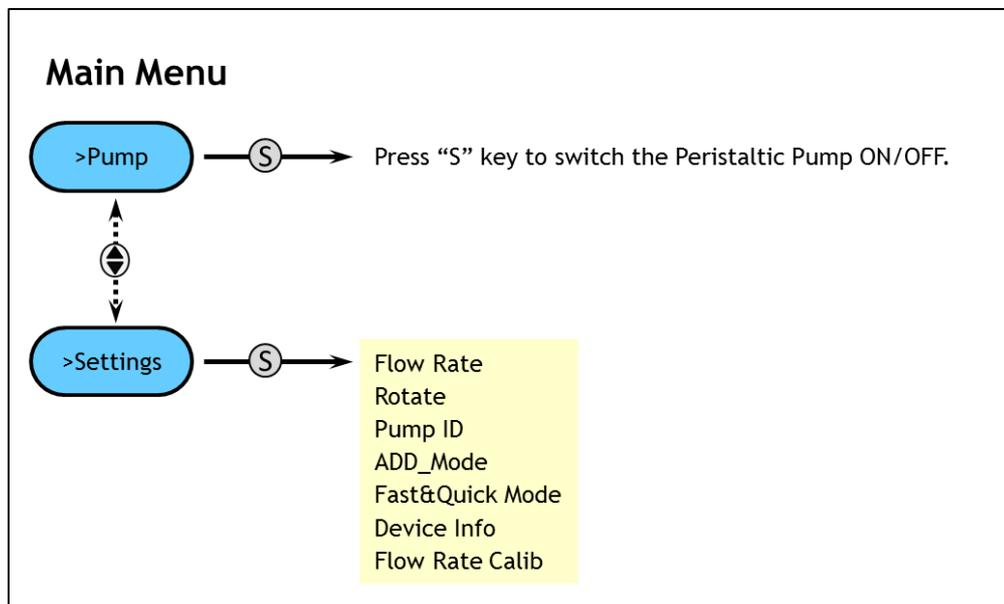

Fig. 9 Menu tree.
- **“UP/DOWN”** key: Use it to attain the desired value (add/subtract) or to move up/down in the menu tree (Fig. 9).